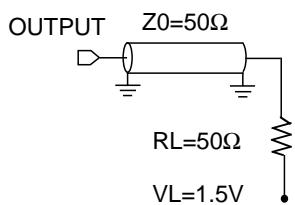
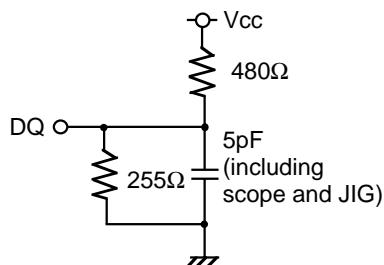

Fig.1 Output load
Fig.2 Output load for t_{en}, t_{dis}
Output loads $Fig1, Fig2$
5. Transition is measured $\pm 500\text{mV}$ from steady state voltage with specified loading in Figure 2.